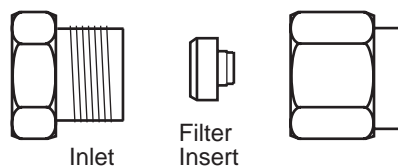

Figure 5-10 Assembling In-Line Filters
7. Assemble each in-line filter with a new filter insert (Figure 5-10).